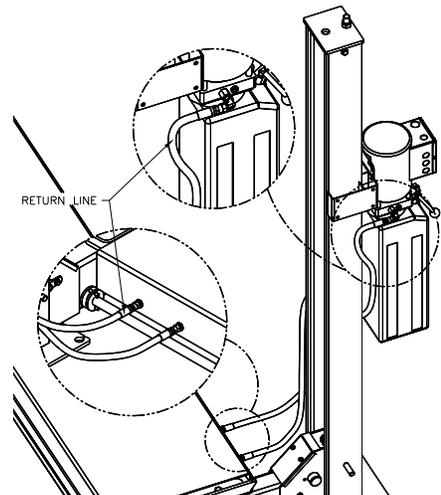

Fig 21 – Return Line, Side
- 37) Remove the 3/8-18 NPT plug on the side of the power unit and attach the 90-degree elbow, Fig 21.